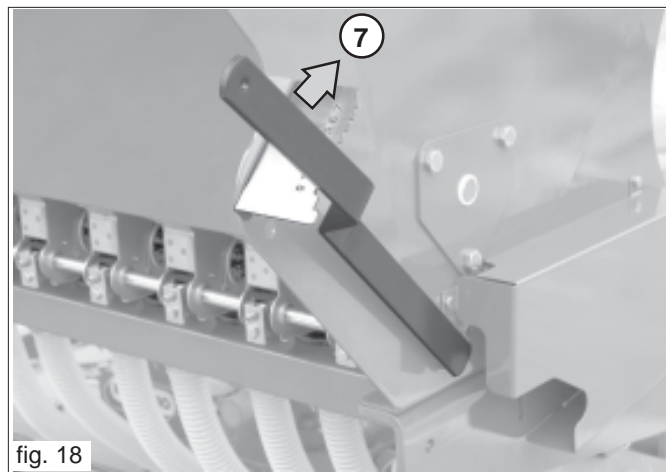

fig. 18
Remember that when sowing large seed (peas, soy beans, etc.), it is advisable to disconnect the seed agitator shaft from the transmission (Fig. 18) to avoid damage to the seed itself. During the sowing test, pay attention to the points at which there are parts in movement: seed agitator shaft, dosing rollers, etc..
- for large quantities, it is advisable to use the crank on the transmission shift to rotate the agitator shaft to better control seed flow. To empty small amounts of seeds, shift the doser lever beyond position 7 (Fig. 18).